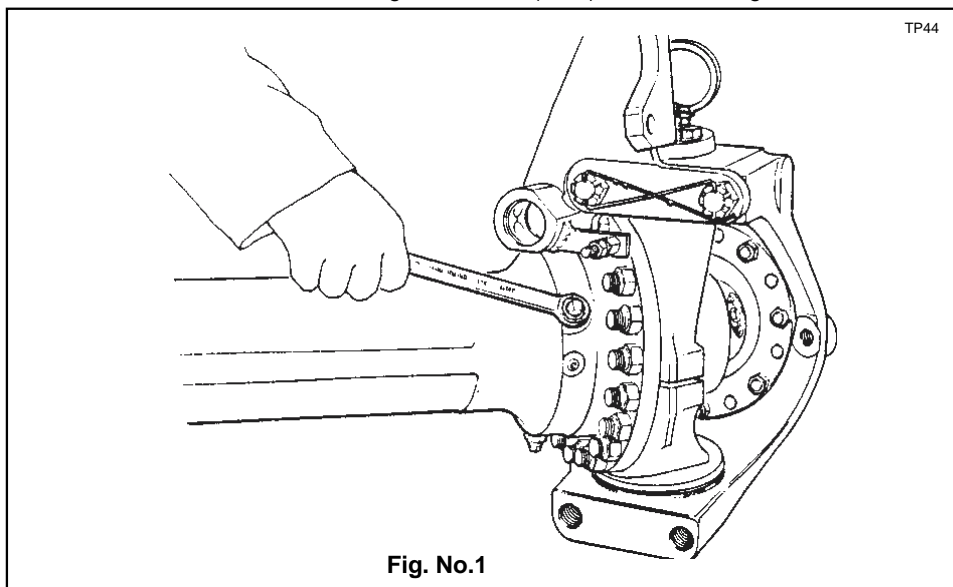

Fig. No.1
- 2.7 Unscrew and remove U.J. oil seal housing lockscREW nuts (115\*) as shown in fig. no.1.